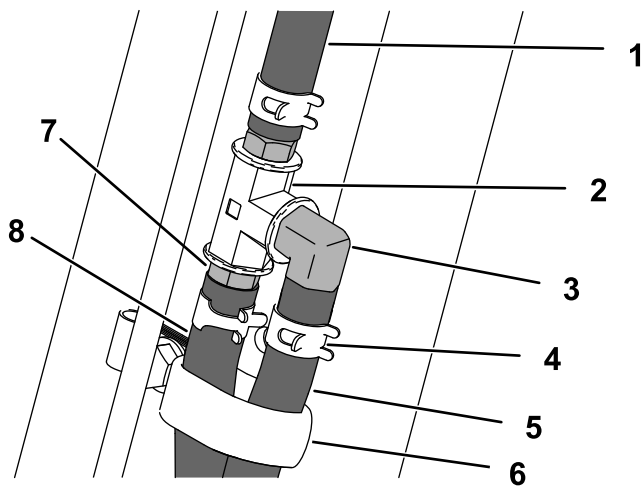

Figure 10
7. Route the hose through the large R-clamp and connect it to the tee fitting using a straight fitting and a hose clamp (1/2 inch) as shown in Figure 10.
10. Route the hose along the small bracket, up the roll bar, through the large R-clamp, and to the tee fitting. Connect the hose to the tee fitting using a 90-degree fitting and hose clamp (1/2 inch) as shown in Figure 10.
11. Torque the bolt securing the large R-clamp (Figure 10) to 1017 to 1243 N·cm (90 to 110 in-lb).